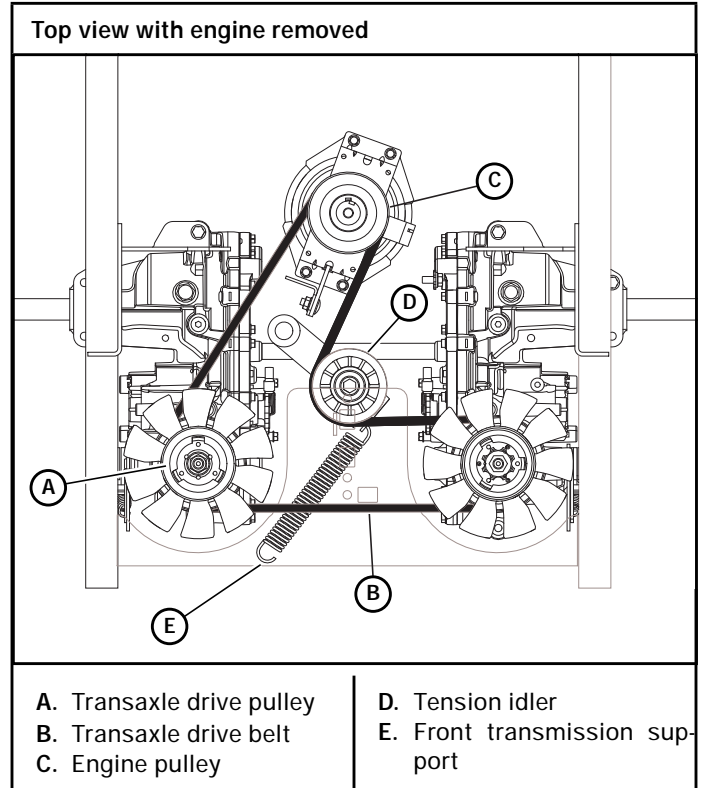

Figure 4-14
- Locate the tension idler spring. Securely clamp locking pliers onto the spring at the end located next to the front transmission support. Figure 4-14
- Release the transaxle drive belt tension, using the locking pliers, to remove the tension spring from the front transmission support. Swing the idler arm out of the way. Figure 4-14
- Remove the transaxle drive belt from the transaxle drive pulleys and the engine pulley. Figure 4-14
- Replace the transaxle drive belt and route it around the engine pulley and the transaxle drive pulleys. Figure 4-14
- Make sure the transaxle drive belt is routed correctly around the tension idler before attaching the tension spring. Using the locking pliers, re-attach the tension spring to the front transmission support to re-tension the transaxle drive belt. Remove the locking pliers from the tension spring. Figure 4-14